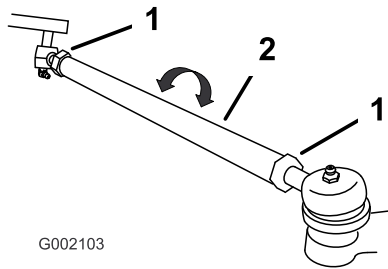

Figure 33
2. If the measurement does not fall within the specified range (refer to the dimensions and parameters at the beginning of this procedure), loosen the jam nuts at both ends of the tie rods (Figure 33).